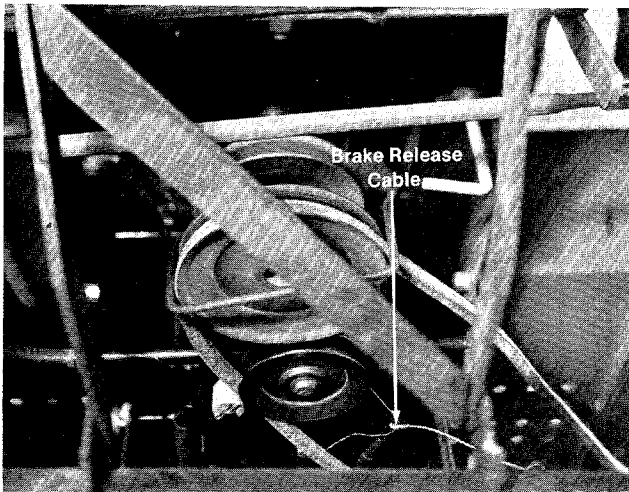

FIGURE 8
8. Place the deck belt around the engine pulley and idler. (See figure 8.)